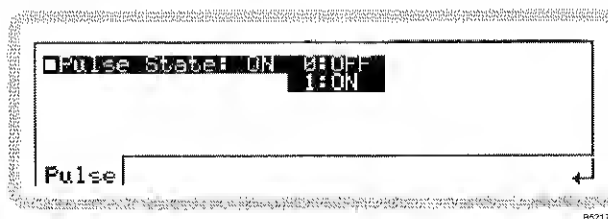

Fig. 3-77 Pulse modulation
- 3 Press **SIG GEN** to show the main screen, and touch the **Pulse** soft box to select the function. Touch **Pulse** and press **J** to view the pulse modulation menu (Fig. 3-77).